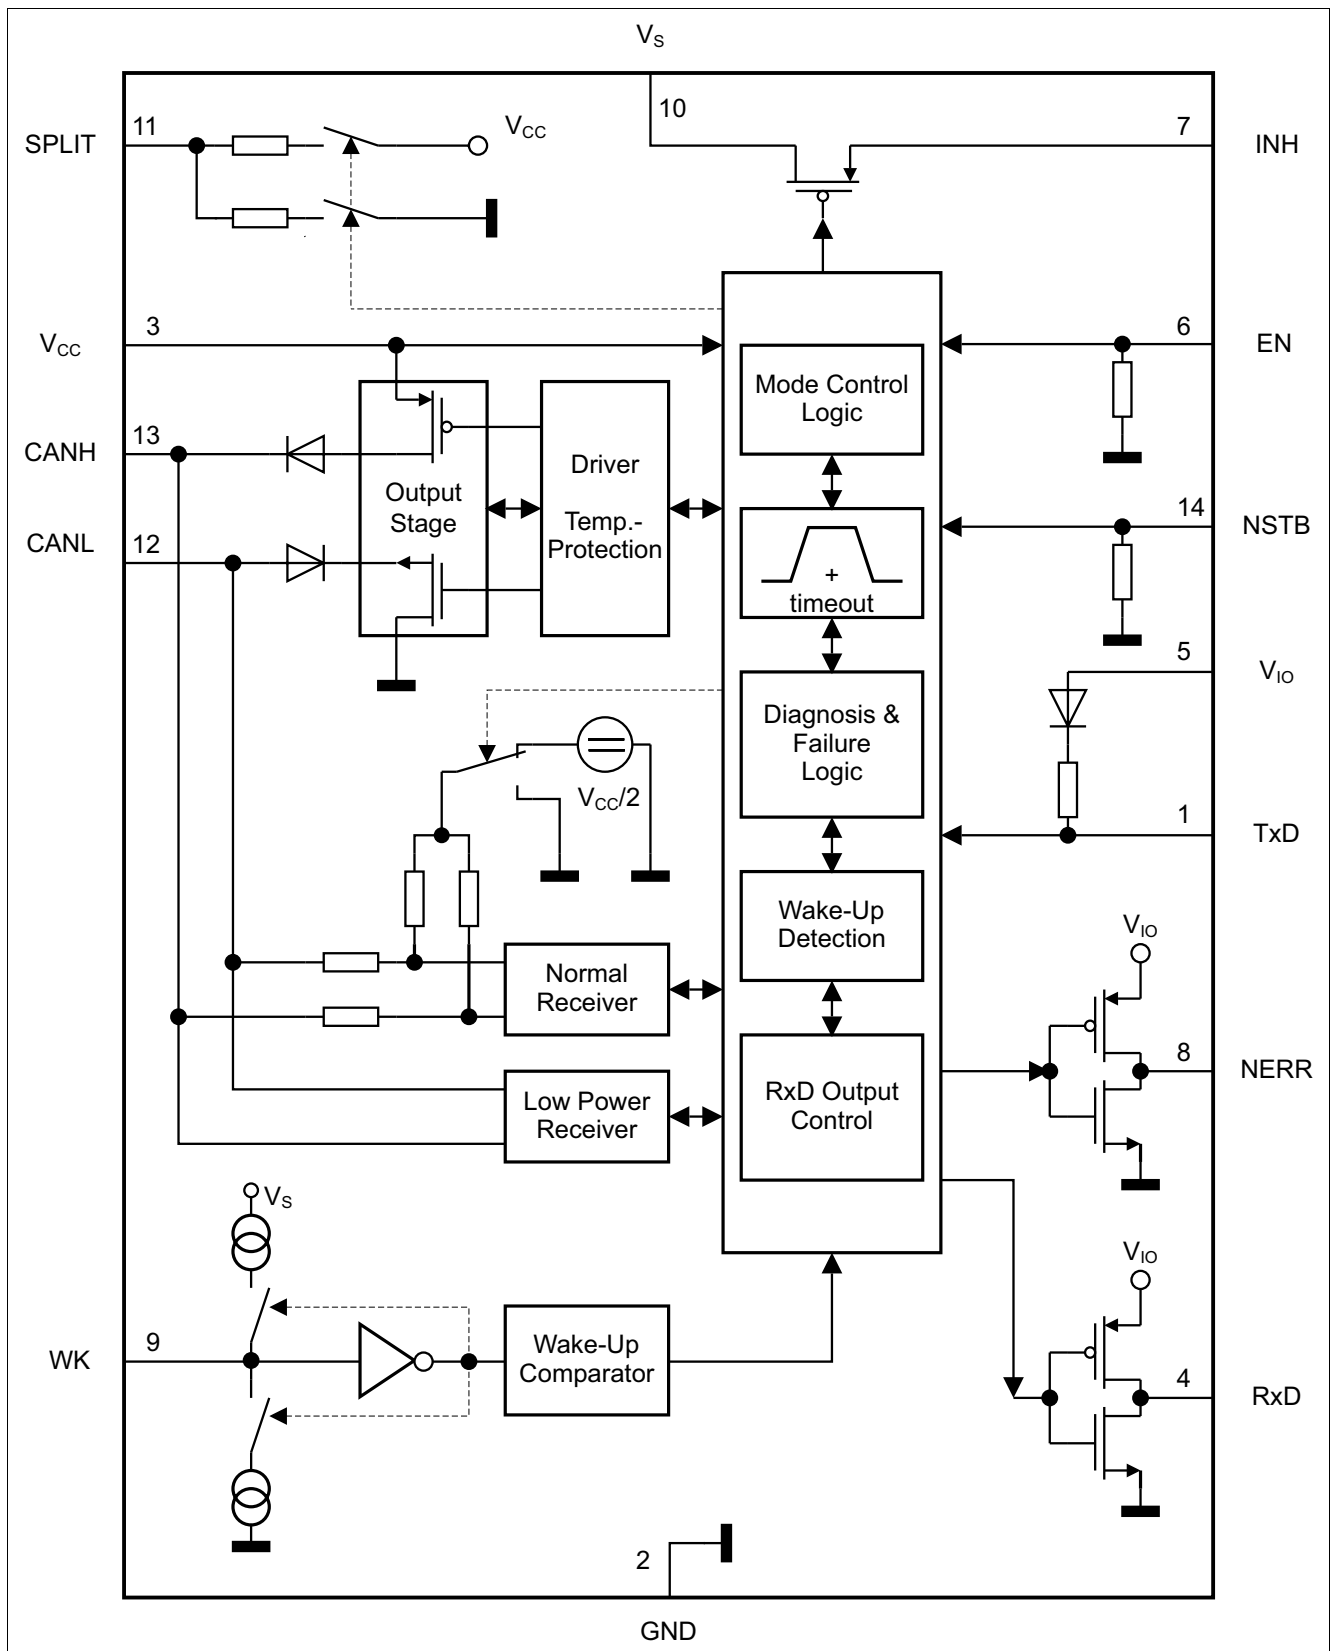
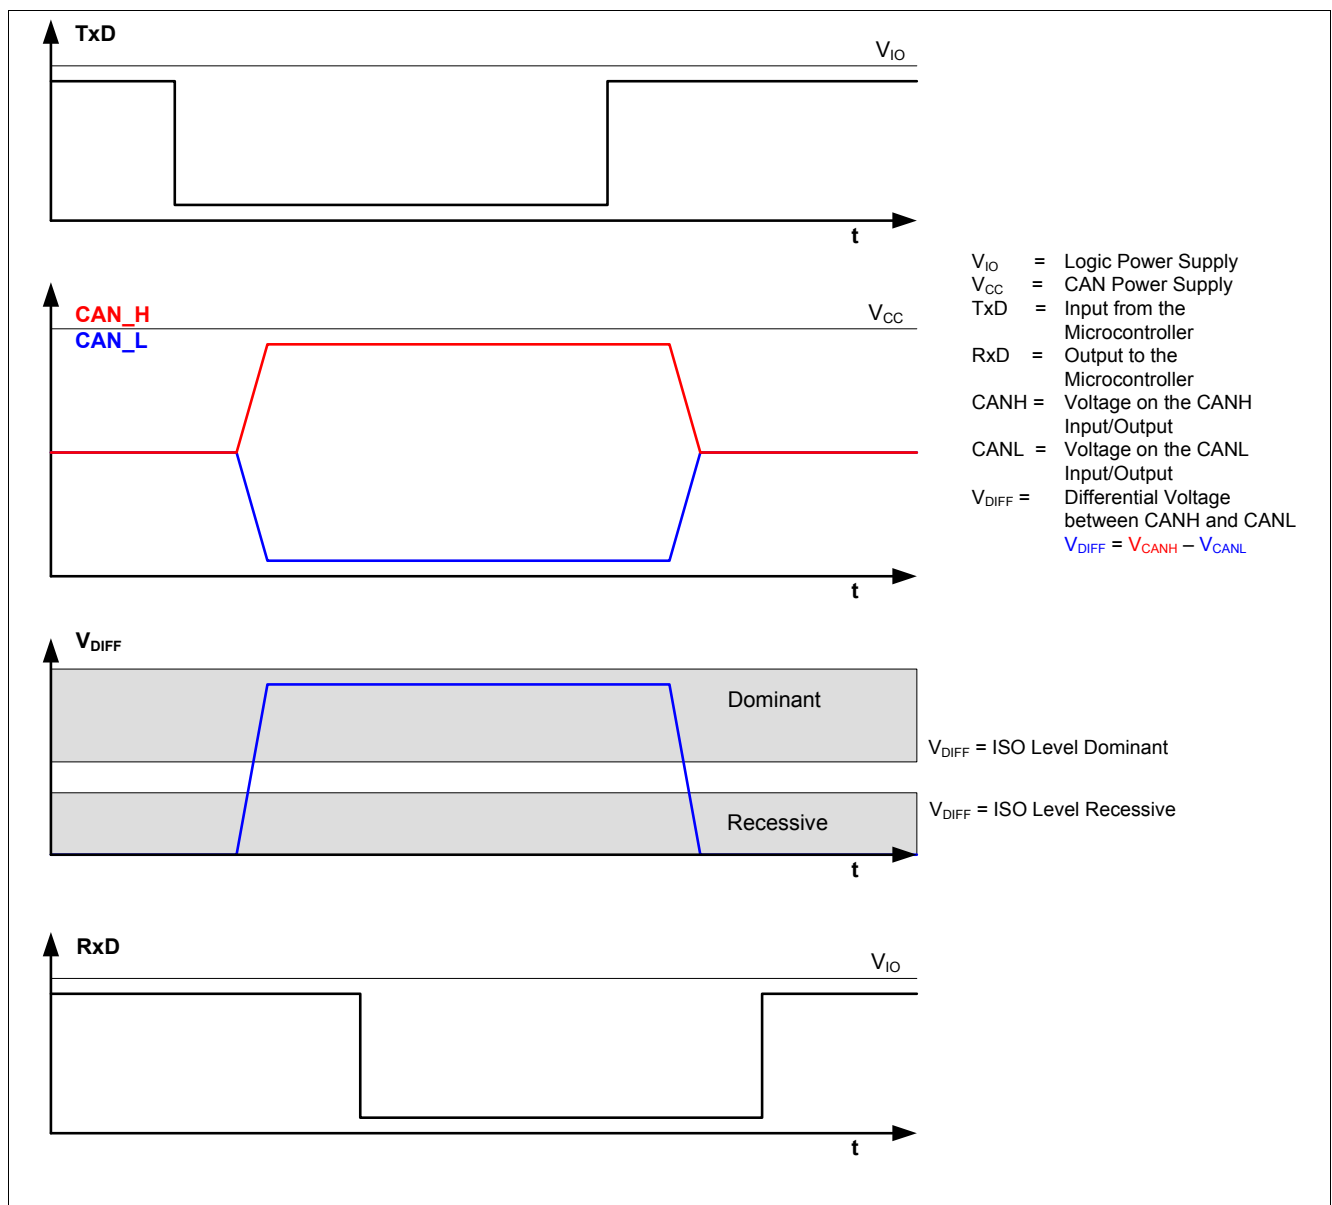

Figure 1 Block Diagram
Figure 3 High Speed CAN Bus Signals and Logic Signals
The TLE6251-2G is a High Speed CAN transceiver, operating as an interface between the CAN controller and the physical bus medium. A **H**igh **S**peed CAN network (abbreviated HS CAN) is a two wire differential network which allows data transmission rates up to 1 MBaud. Characteristic for a HS CAN network are the two CAN bus states "Dominant" and "Recessive" (see Figure 3).
The input TxD and the output RxD are connected to the microcontroller of the ECU. As shown in Figure 1, the HS CAN transceiver TLE6251-2G has a receive unit and a output driver stage, allowing the transceiver to send data to the bus medium and monitor the data from the bus medium at the same time. The HS CAN transceiver TLE6251-2G converts the serial data stream available on the transmit data input TxD into a differential output signal on CAN bus. The differential output signal is provided by the pins CANH and CANL. The receiver stage of the TLE6251-2G monitors the data on the CAN bus and converts them to a serial data stream on the RxD pin. A logical "Low" signal on the TxD pin creates a "Dominant" signal on the CAN bus, followed by a logical "Low" signal on the RxD pin (see Figure 3). The feature, broadcasting data to the CAN bus and listening to the data traffic on the CAN bus simultaneous is essential to support the bit to bit arbitration on CAN networks.
- Through the internal resistors R_I (see Figure 1), the pins CANH and CANL are connected to GND.